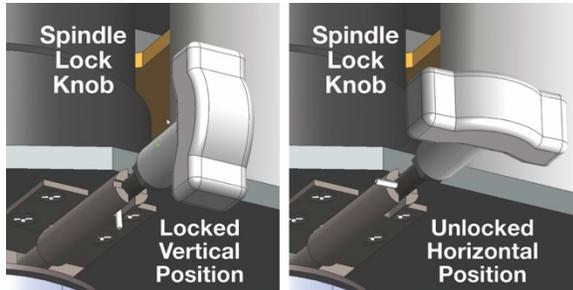

Figure 6-5: Spindle Lock Knob
Refer to Figures 6-5 and 6-6.
1. Slide sanding sleeve (B) onto spindle, ensuring that it slides into collar (C).
2. Tighten set screw on collar (C) with provided 3mm hex wrench. Do not overtighten.
4. Position spindle taper (A) into main shaft (F) and hold.
5. Rotate nut (D) clockwise by hand, as viewed from above. Continue rotating nut until spindle seats (stops turning with nut), then continue rotating nut until it is hand tight.
6. Slightly pull spindle lock knob out and turn 90° to locked (vertical) position (see Figure 6-5). Release lock knob and spindle lock shaft will spring forward into place. Note: Rotate spindle to ensure proper engagement.
7. Use provided combination wrench to tighten nut (D) further. Do not overtighten.
8. Slightly pull spindle lock knob out and turn 90° to unlocked (horizontal) position (see Figure 6-5). Release lock knob and it will spring forward into place.
1. Position spindle taper (A) into main shaft (F) and hold.
2. Rotate nut (D) clockwise by hand, as viewed from above. Rotate nut until spindle seats (stops turning with nut), then continue rotating nut until it tightens.
3. Slightly pull spindle lock knob out and turn 90° to locked (vertical) position (see Figure 6-5). Release lock knob and spindle lock shaft will spring forward into place. Note: Rotate spindle to ensure proper engagement.
4. Use provided combination wrench to tighten nut (D) further. Do not overtighten.
6. Slide drum/sleeve assembly (G) down fully onto spindle (H).
7. Install hex nut (E) onto spindle threads and tighten clockwise (as viewed from above) with provided combination wrench.
8. Pull on sleeve to ensure it is secure. If it slides, tighten nut (E) a bit further. Do not overtighten.
9. Slightly pull spindle lock knob out and turn 90° to unlocked (horizontal) position (see Figure 6-5). Release lock knob and it will spring forward into place.